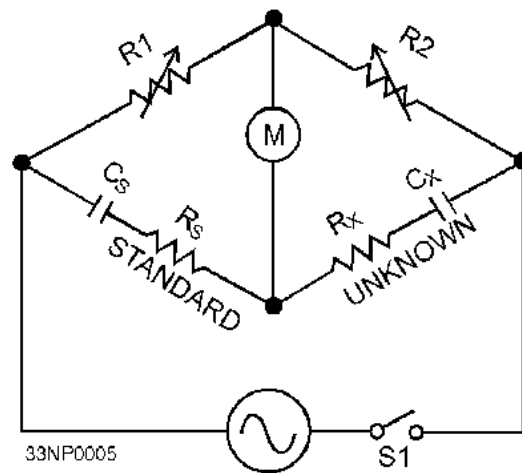

Figure 1-7.—Capacitance bridge.
**CAPACITANCE BRIDGE.**—Because current varies inversely with resistance and directly with capacitance, an inverse proportion exists between the four arms of the bridge in figure 1-7; the right side of our expression is inverted from the resistance bridge expression as follows:
In figure 1-7, for example, we know that  $R_1$  is 20 ohms,  $R_2$  is 40 ohms,  $R_s$  is 60 ohms, and  $C_s$  is 10 microfarads. We can find the values of  $C_x$  and  $R_x$  by using the respective formulas as follows: